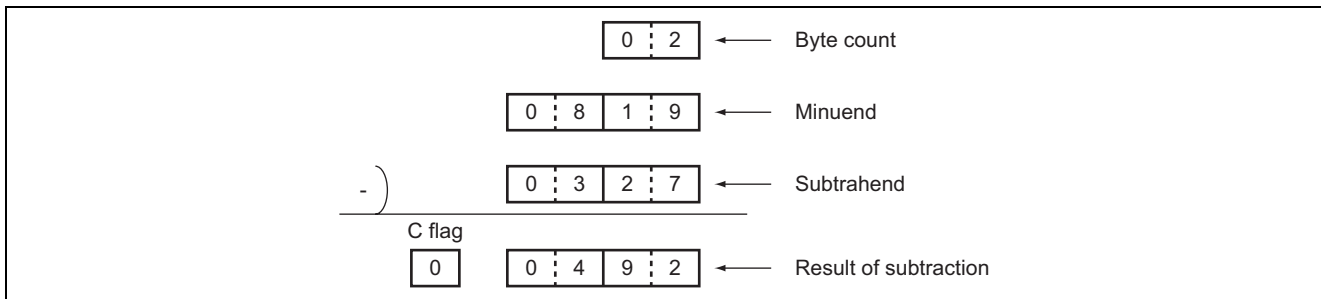

Figure 3 Example of Subtraction with Upper Bits Unused
- When the upper bits are not used (see figure 3), set them to 0. The software SUBD2 performs byte-based subtraction; when 0 are not set in the unused upper bits, a correct result cannot be obtained because the subtraction is done on the numbers including indeterminate data.